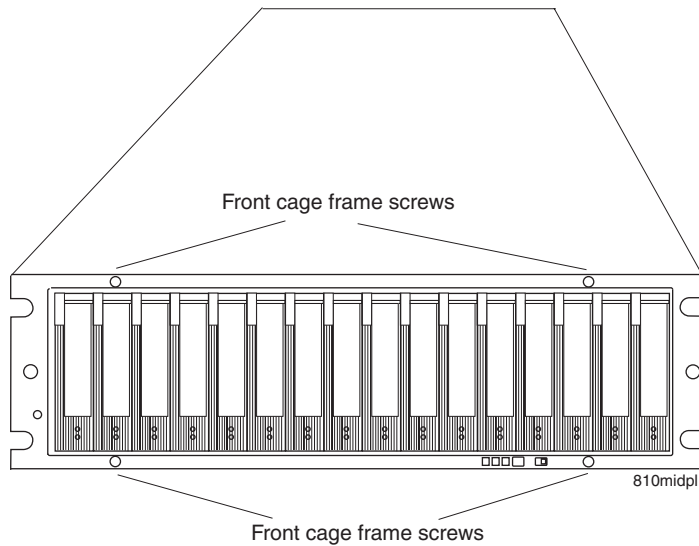

Figure 47. Replacing a midplane
11. Use a Phillips Number 1 screw driver to loosen the four front cage frame screws on the midplane, as shown in Figure 47 on page 94.